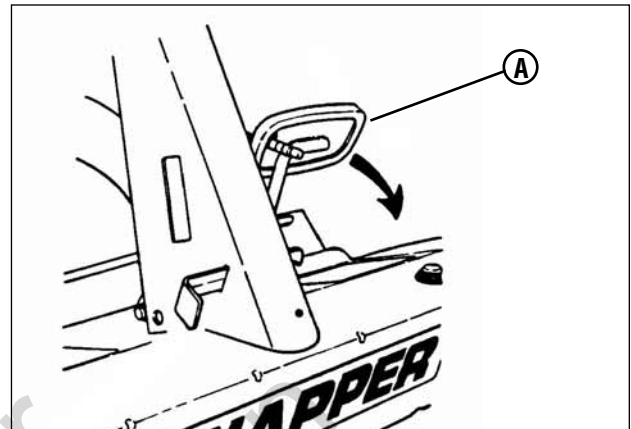

Figure 11: Engaging the clutch/brake pedal
2. Depress the clutch/brake pedal (**A, Figure 11**).